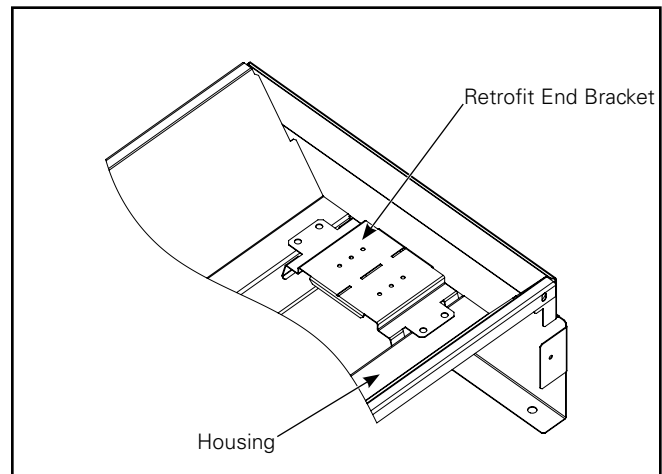

Figure 3.
1. Align and install new Retrofit End brackets using 2 self-tapping screws. (Figures 3 and 4.)